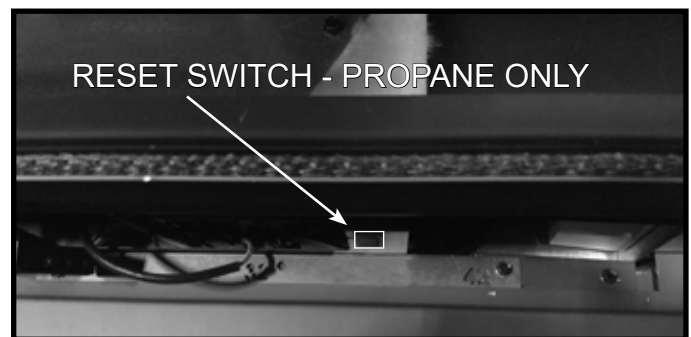

Figure 3.8 Reset Switch Location
For propane applications, the appliance has a hard lockout and the IFT-ECM must be reset. This appliance has a reset switch located inside the control cavity for propane applications. See Figure 3.8 for approximate location.
- Locate reset switch inside the appliance. See Figure 3.8.